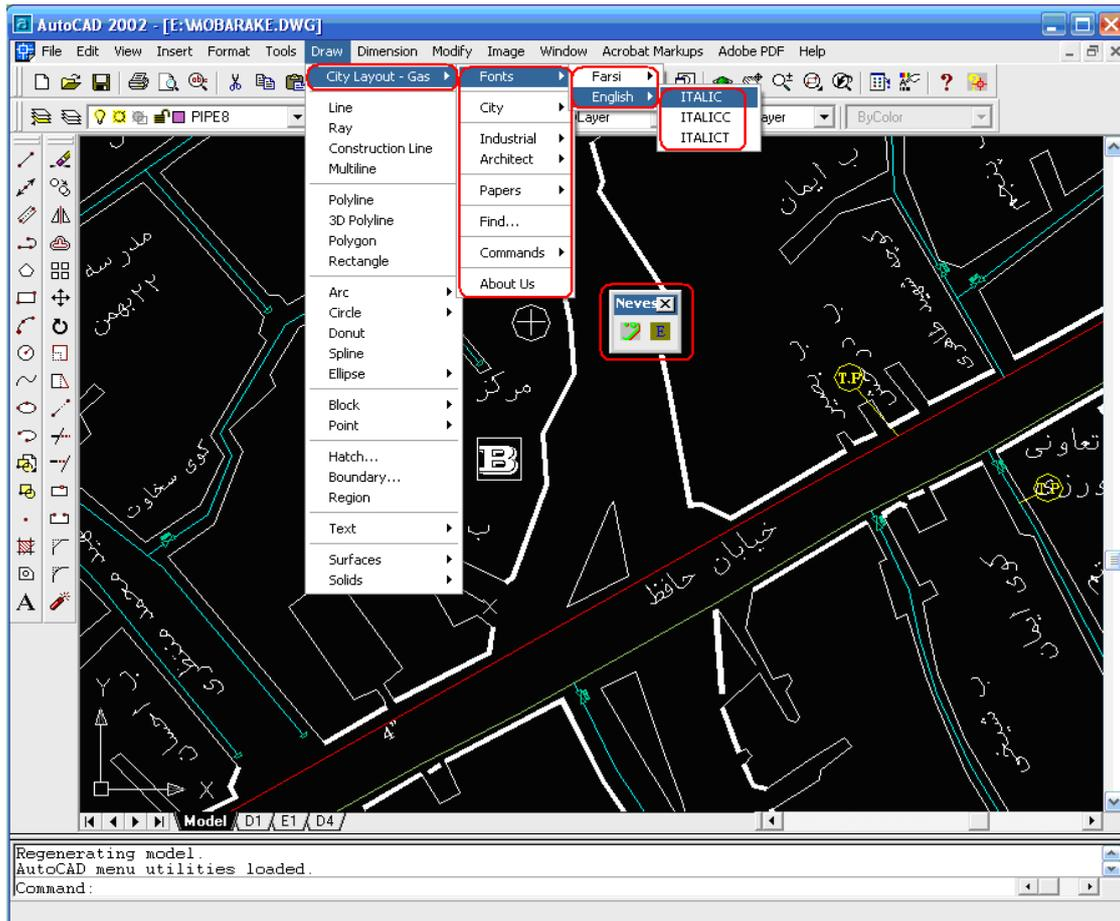

Figure 20
- Figure 20 : Writing tools and othen menu.